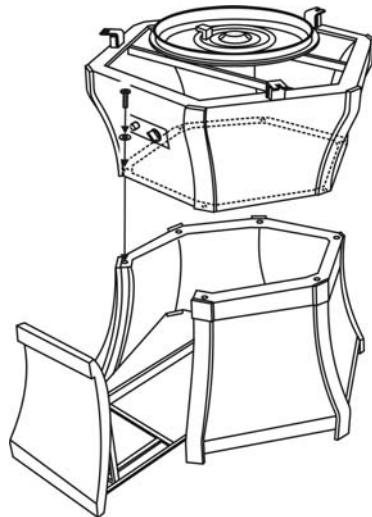

Figure 5
4. Attach the upper frame (T) to completed bottom frame by using six 1/4"x30 mm bolts (P) and washers (Q) as shown in Figure 5. Guide bolts through holes in upper frame, into pre-drilled hole in the bottom frame. Hand-tighten only.